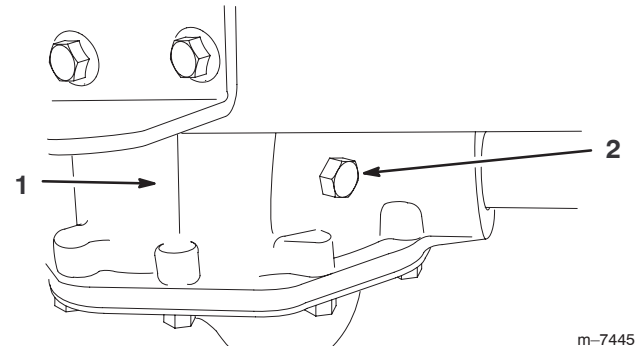

Figure 29
- 2. Remove the check bolt on the transaxle (Fig. 29).